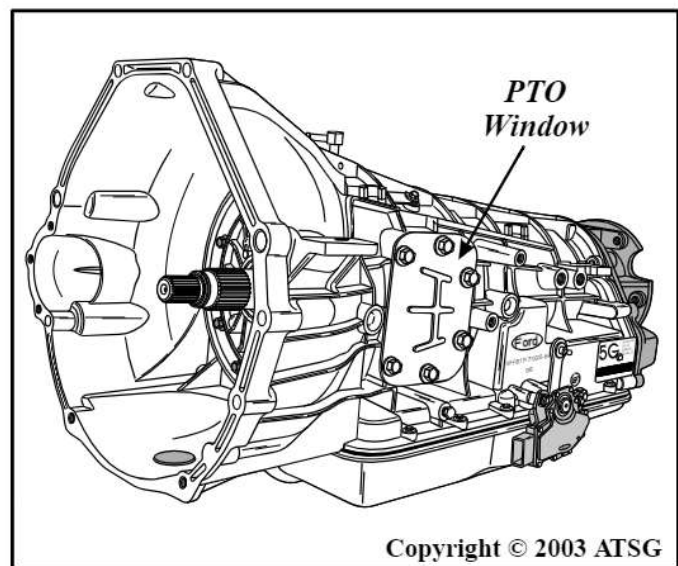

Figure 5
- (1) Obviously the case must be PTO capable with the cast-in window in the transmission where the PTO unit mounts to the transmission, as shown in Figure 5.
- (2) Designed for use during Mobile (Some Models) or Stationary conditions.
- (3) PTO is available as an option **only** on 8500 GVW or above, Super Duty F-Series trucks with 6.8L Gasoline and 7.3L Diesel engines. Ford 4R100 transmissions on other models **are not** PTO capable.
- (4) Battery voltage **must** be supplied to the Powertrain Control Module (PCM) input pin 4 on gasoline models, or pin 66 on diesel models, **when the PTO is engaged**. The processor uses this information to raise EPC pressure to approximately 55 PSI so that you do not burn the coast clutch. ***This voltage must be provided by the PTO installer.***
- (5) Shift Solenoid 2 and the Coast Clutch Solenoid must be energized when the PTO is turned ON.